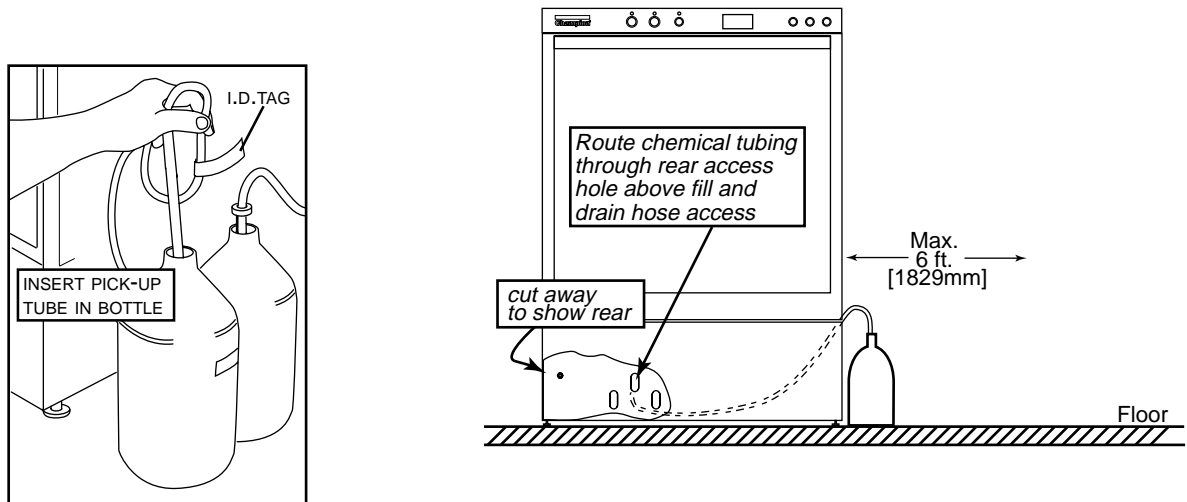

Figure 2.9.3
10. Refer to Fig. 2.9.3. showing the recommended chemical bottle placement. Bottles may be placed on either side of the dishwasher.